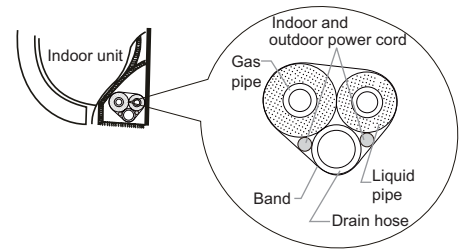

Fig. 14
- (1) Bind up the connection pipe, power cord and drain hose with the band. (As show in Fig. 14)